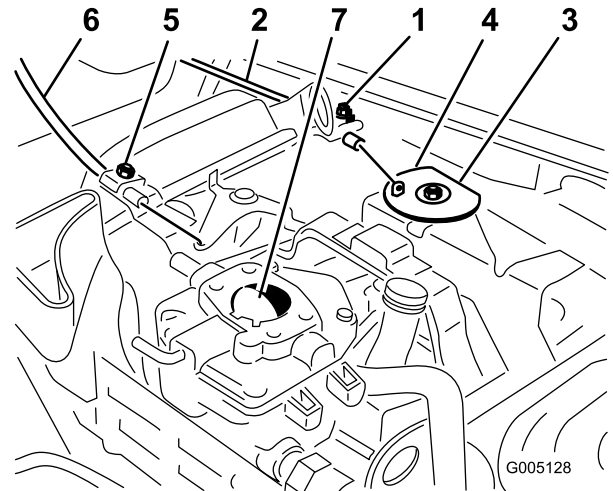

Figure 47
1. Loosen the cable clamp screw securing the cable to the engine (Figure 47).
3. Pull firmly on the throttle cable until the back of the swivel contacts the stop (Figure 47).
3. Pull firmly on the choke cable until the choke butterfly is completely closed, then tighten the cable clamp screw (Figure 47).